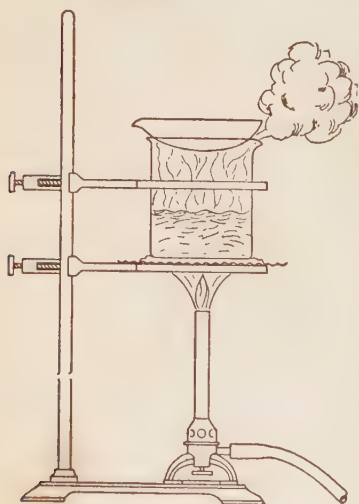

FIG. 11.
Now place about 1 g. of gunpowder in a large test-tube and add 5-10 c.c. of water. Shake well (after closing the test-tube with the thumb), warm gently, and filter. Evaporate the filtrate upon a water bath or over a beaker of boiling water (Fig. 11). Describe and name the residue (?). Dry (why?) the filter paper and its black contents over a radiator or in a drying oven. Shake the dried product with cold carbon disulphide in a dry test-tube, filter, and allow the filtrate to evaporate [Hood] spontaneously (?). What remains upon the paper?
b. Composition of an Oxide of Iron. Weigh an evaporating dish of medium size, place in it about 1 g. (12 inches) of pure iron wire, and weigh again. Cover the dish with a watch-glass, convex side downward, and add 10 c.c. of pure dilute nitric acid [Hood]. Set the dish, covered, on a water bath (see Fig. 11, p. 18) until the iron has dissolved, adding a few drops of concentrated nitric acid if any of the wire remains unattacked (Instructions). Then rinse any material on the cover-glass carefully into the dish with the help of your wash-bottle and evaporate the solution to dryness. When the residue is dry, place the dish on a clay triangle supported on the ring-stand and heat carefully with a burner held in the hand as long as any red fumes are given off. During this process, and especially at first, great care and patience must be exercised, as too rapid heating may cause solid particles of the product to be thrown from the vessel. If any crackling noise is observed, remove the burner at once. When, after final strong heating of every part of the material, red fumes or other evidence of continued change can no longer be perceived, allow the dish and contents (?) to cool, and then weigh. To make sure that the decomposition was complete, heat once more, cool, and weigh again. This precaution is always necessary in experiments of this nature.
[Quant., balance], and record the results as shown below. Place in each some sodium bicarbonate (baking soda), in the one about 1 g. and in the other about 2 g., and weigh again. Treat both alike, as follows: Dissolve the solid in pure dilute hydrochloric acid, adding little by little and covering with a watch-glass between successive additions to avoid loss by spurting. When the solid has wholly dissolved, wash the watch-glass over the dish, and evaporate [Hoop] the contents of the latter on the water bath, or on a beaker of boiling water (Fig. 11). (Avoid loss of time by borrowing a second Bunsen burner and gas tubing temporarily from the storeroom.) Allow the dishes to become perfectly cold, and weigh. To make sure that the drying was complete, heat once more for half an hour and, when cold, weigh again. This precaution is taken in all experiments of this kind. The product is common salt.